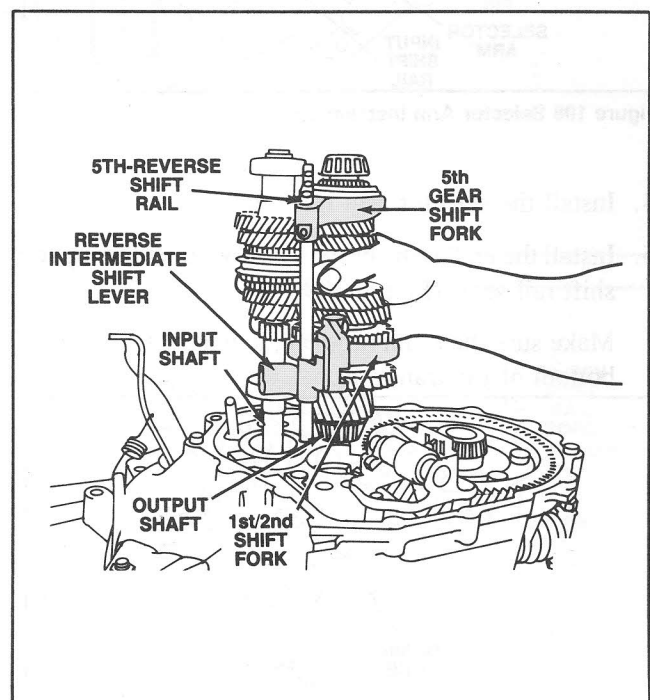

Figure 116 Gear Train Installation
8. Mesh the output gear train with the input gear train, grasp as an assembly and install in the clutch housing. (Figure 116).